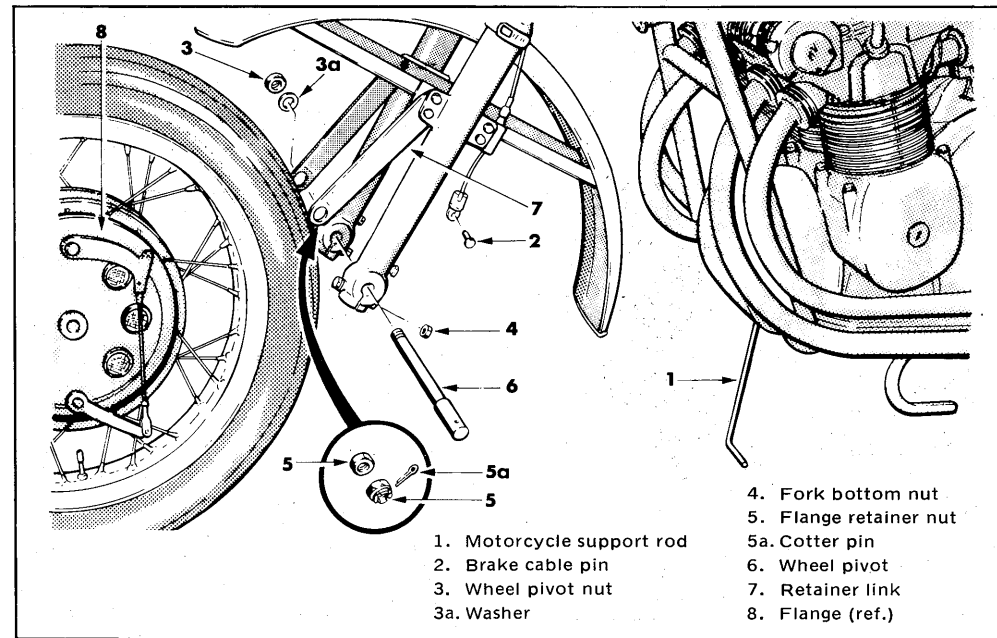

Figure 3-16. Removal of front wheel with drum type brake
- b. Lift the front wheel by means of the appropriate support rod (1, figure 3-16) stored under engine case.
(See figure 3-16)
- c. Remove pins (2) from brake control cable forks.